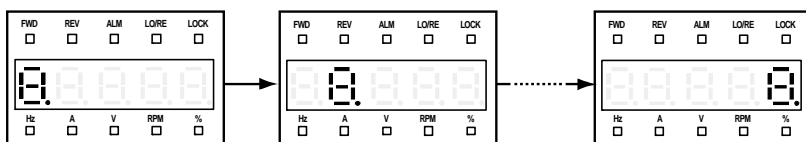

Figure 5-13 Starting display of the display panel self-checking
1. In stop status, the self-checking function can be enabled by pressing **▶▶** key and **◀◀** key simultaneously for 2—3 seconds, the 5 LED will cyclically display "8" from left to right in turn for three times which is as shown in Figure 5-13.